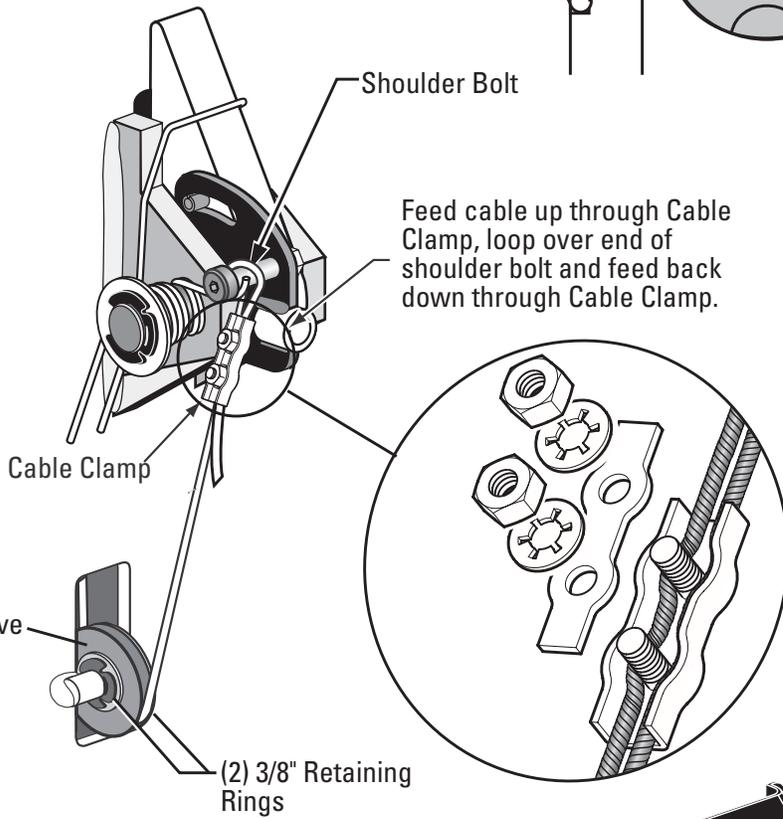

Fig. 19
- G) Bring the cable down inside the left column and feed the end of the cable through the lower latch cable sheave slot so that the cable is now back outside the column, Fig. 19.
- H) Route cable under the bottom side of the latch cable sheave, Fig. 19.
- J) Insert cable in cable clamp along one side, loop around shoulder screw and back down, inserting cable along other side of cable clamp, Fig. 19. Place top back on clamp, barely tightening.
- K) Next, pull the control plate down, Fig. 18 & Fig. 19, to eliminate any clearance between the control plate slot and the latch dog pin, Fig. 18.